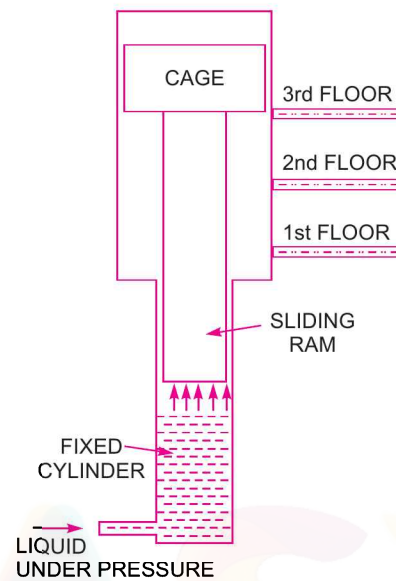

Fig. 21.8 *Suspended hydraulic lift.*
**21.6.1 Direct Acting Hydraulic Lift.** It consists of a ram, sliding in fixed cylinder as shown in Fig. 21.8. At the top of the sliding ram, a cage (on which the persons may stand or goods may be placed) is fitted. The liquid under pressure flows into the fixed cylinder. This liquid exerts force on the sliding ram, which moves vertically up and thus raises the cage to the required height.